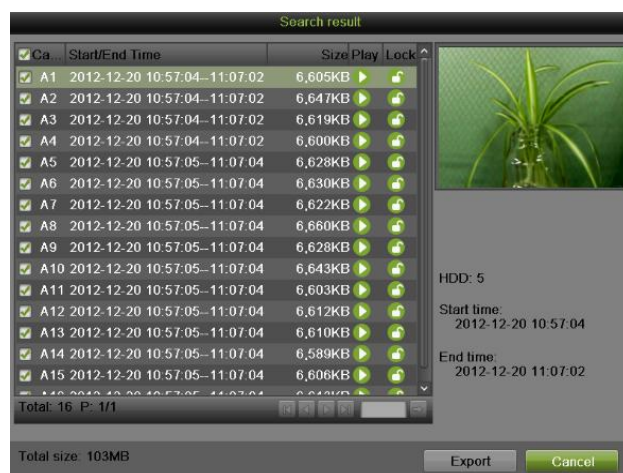

Figure 137 Search Result Interface
6. Click the Search button. A search result box will pop-up, as shown in Figure 137.